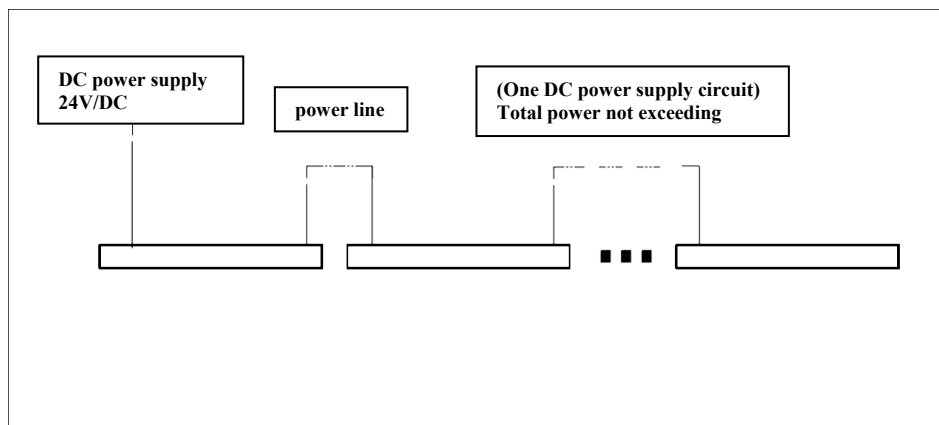

Figure 4
1. The wiring of lamps without dimming function is shown in Figure 4